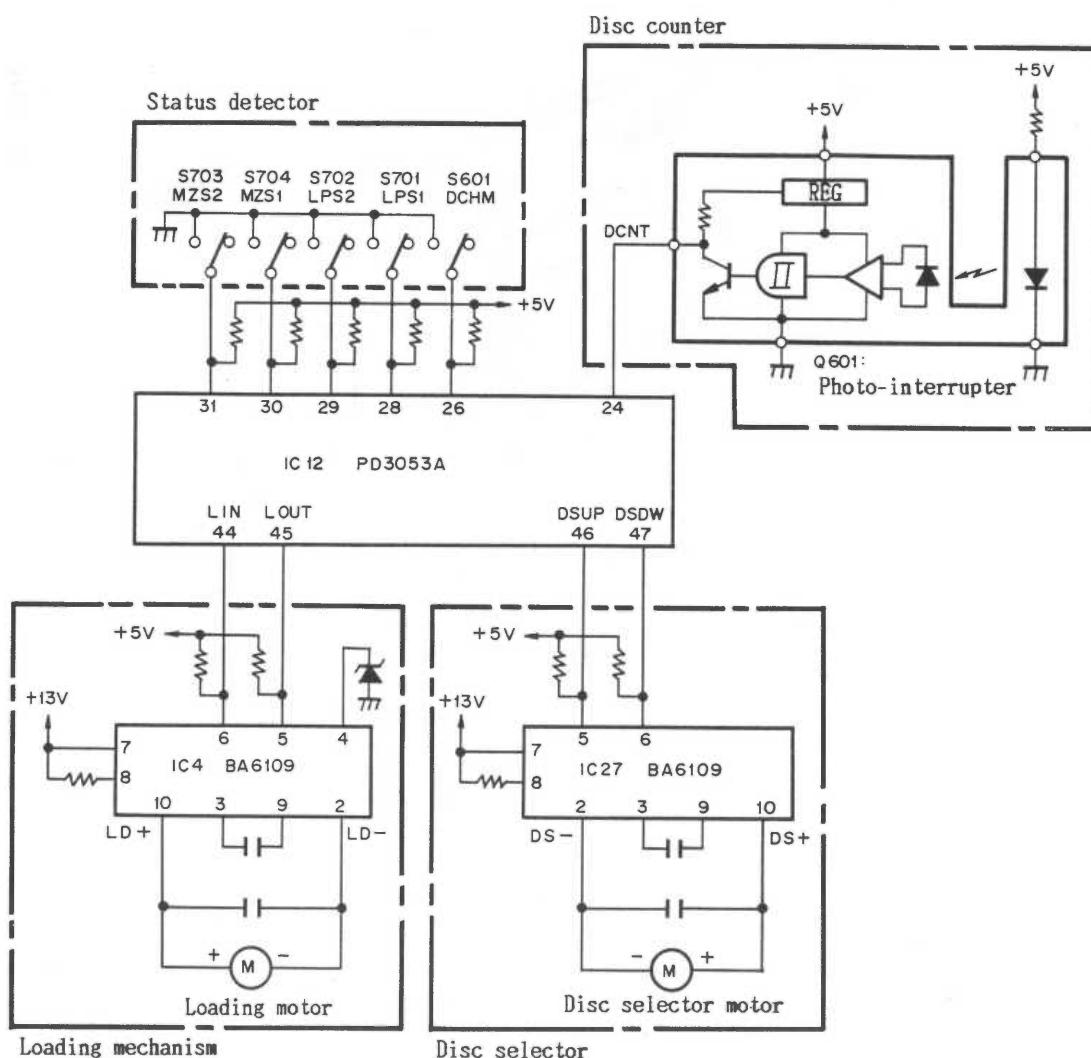

Fig.3-1 Block diagram
(1) Loading motor operations
- ① Removal of single tray from the magazine and clamping it into position. (Forward motor movement)
- ② Returning of clamped disc to magazine. (Reverse motor movement)
- ③ Ejection of magazine from main unit. (Reverse motor operation)
Operations ① thru ③ are executed by motor control voltage outputs from the motor driver IC (IC4) when logic signals (H or L) from pins 44 and 45 of the system control IC (IC12) are received by IC4. (See Fig.3-1.)